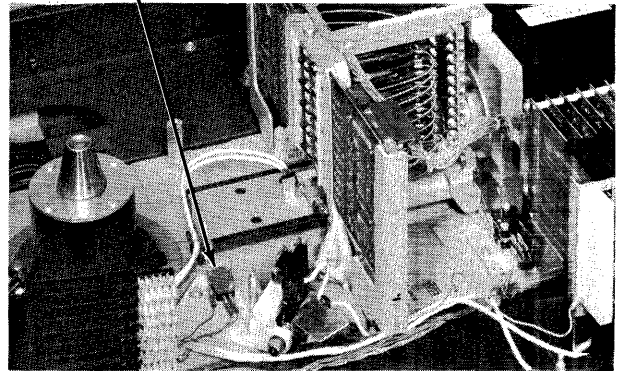

Figure 5-61. Rack-End Limit Microswitch
- f. Using spring scale, apply pressure to rear of head mounting block (see Figure 5-61).